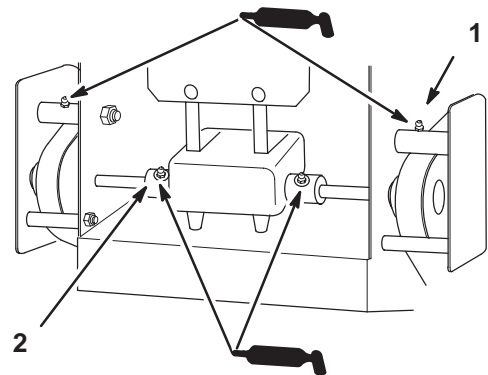

Figure 40
2. Lubricate the transmission couplers every 100 hours and idler arm pivots every 8 hours (Fig 40).